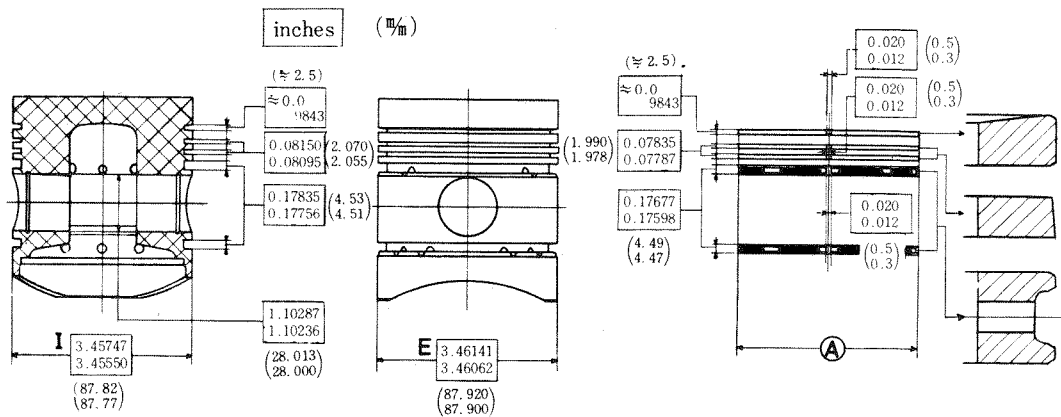

Fig. 28 Standard dimensions of piston and piston ring
(5) Main moving parts
- ① The piston and the piston ring is arranged as shown in Fig. 28.